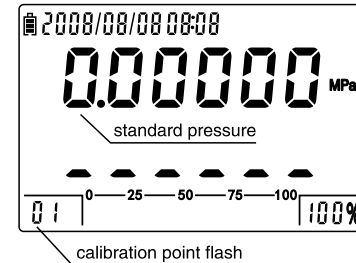
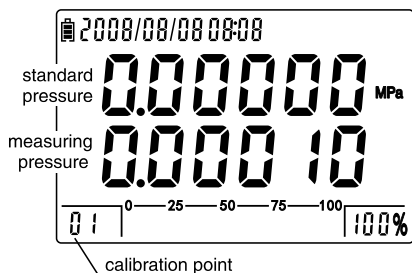
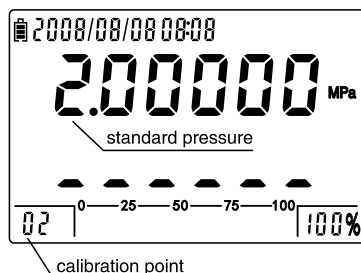
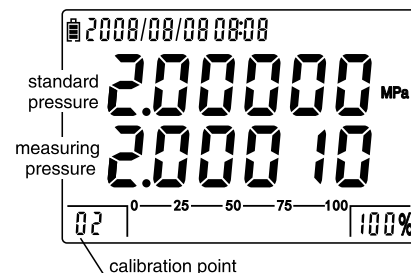

Figure 5-3-1: 1st point entrance
Figure 5-3-2: 1st point calibration
Figure 5-3-3: 2nd point entrance
Figure 5-3-4: 2nd calibration
- (1) Press to enter into passport menu, input the password "2003" and press to enter into calibration menu.
- (2) Select **IP\_CAL** and press to enter into the entrance interface. The **【 01 】** of left reading area is 1st calibration point, the user can select points by using . Please press to start calibration. (as figure 5-3-1)
- (3) The first line flashes to remind the user to input the standard pressure of 1st point. (In this example, it is 0.00000 MPa)
- (4) As figure 5-3-2, screen displays the interface of 1st calibration point. Please supply 0.00000 MPa pressure, and press  to finish the 1st point calibration after it is stable. As figure 5-3-3, switch to the 2nd point calibration interface.
- (5) Under the interface of 2nd calibration point, the first line flashes for new standard pressure. In general, it is the default (In this example, it is 2.00000 MPa), press  for next step.
- (6) As figure 5-3-4, screen displays the 2nd point calibration interface. Please supply 2.00000 MPa pressure and press  to finish the 2nd point calibration after it is stable. The screen switches to the interface as figure 5-3-1 and the calibration is finished.
- (7) Press  to return to the calibration function menu. The calibration is effective if **2P\_0** changed to **2P\_1**.